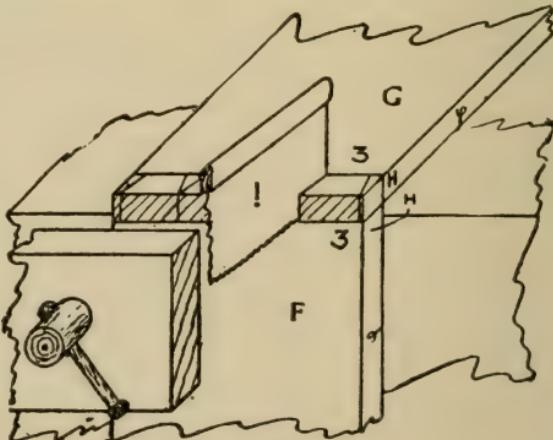
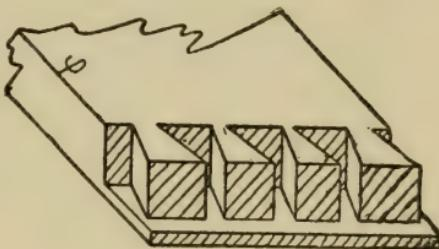
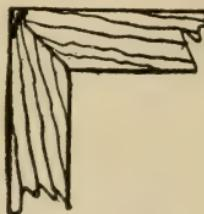
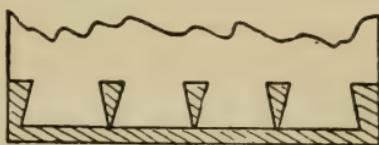

FIG. 13
FIG. 17
FIG. 22
FIG. 23
To mark the pins, screw one of the ends upright in the bench vise, with the top end about half an inch above the bench top, as at F, Fig. 13, taking care to keep the face side toward the bench. Then lay one of the sides on it, as at G, so that the squared-over marks
done as shown in the figure, making the mortises the same size as the pins, and cutting them as shown. The corresponding member is worked as in Fig. 17, the necessary marking being done as in Fig. 13, and marking round point, then cutting them out with
By mitering the top edges, as in Fig. 22, the appearance of this part is as Fig. 23, and if done properly is an improvement. It does not add much to the difficulty of making the joint.
**23**, is rounded off as shown in Fig. 22, and when such is the case, the drawer projects from the face of the framework as shown by the dotted lines.
and the dovetails not cut through, as shown in Figs. 17 and 18, and when put together, in Fig. 22.